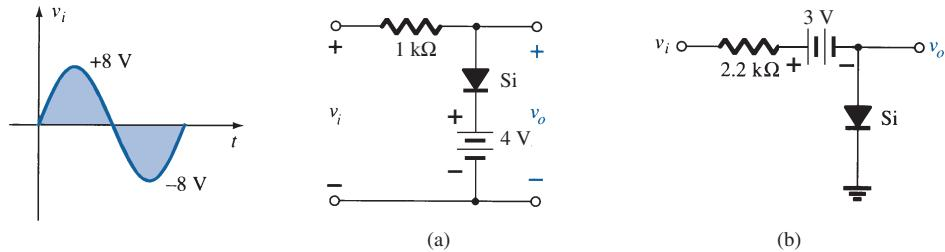

FIG. 179
*35. Determine v_o for each network of Fig. 179 for the input shown.